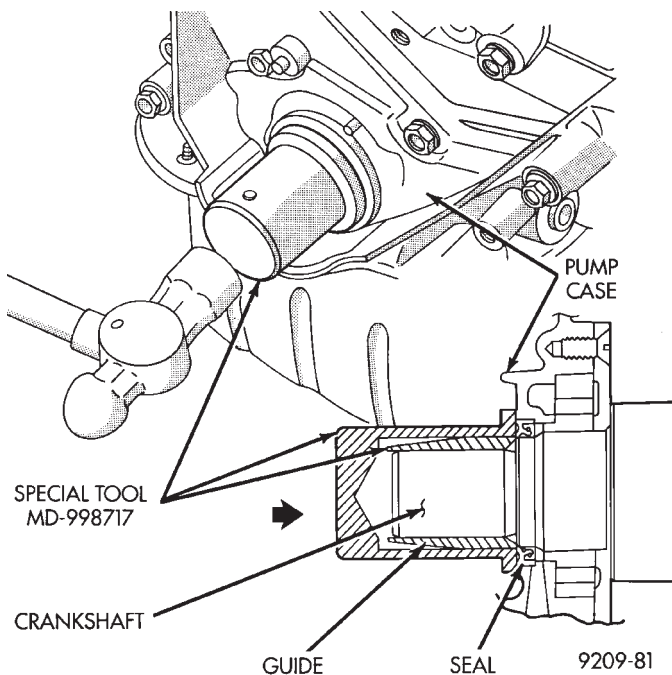

Fig. 15 Crankshaft Front Oil Seal
(2) Using front crankshaft oil seal installer Special Tool MB998306 install oil seal in oil pump (Fig. 15).